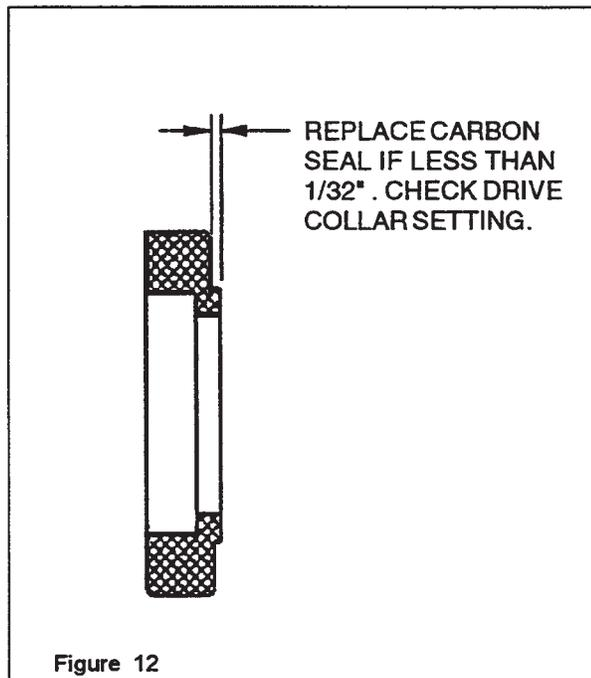

Figure 12
This type of seal should be replaced when the face is worn away or when leakage is noted. (See *Figure 12*)
Inspection during cleaning will determine if carbon seal needs replacement. No additional drive collar adjustment is necessary unless the seal is replaced. (*Figure 12*)
- NOTE:** When the extension end of the carbon seal is less than 1/32", replace seal. (See Figure 12)